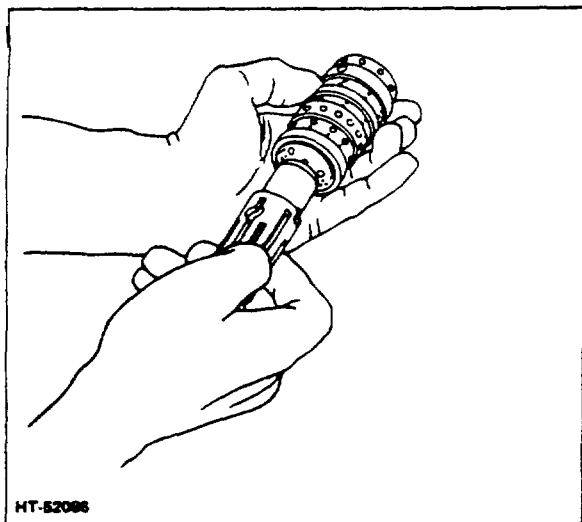

Figure 3-16. Installing Spool in Sleeve
5. Carefully install the spool within the sleeve (Fig 3-16). Be sure that spring slots of both parts are at the same end. Rotate spool carefully while sliding parts together. Test for free rotation.